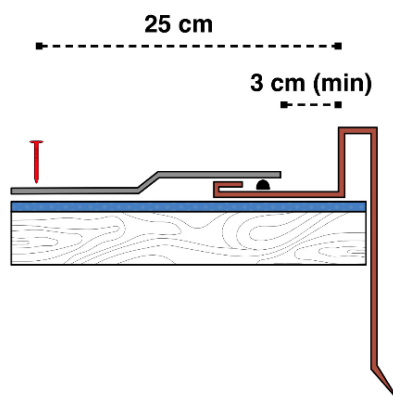

Fig. 4 – Lateral flashing detail
- Install the lateral flashing above the membrane/underlayer membrane applied to the roof. Apply a Bitustick bead to the external side of the lateral flashings. Proceed with the shingles installation, as described below, on the lateral flashing letting a space of about 3cm between the end of the shingles and the edge of the lateral flashing – Fig. 4. Do not use nails less than 25 cm from the flashings.